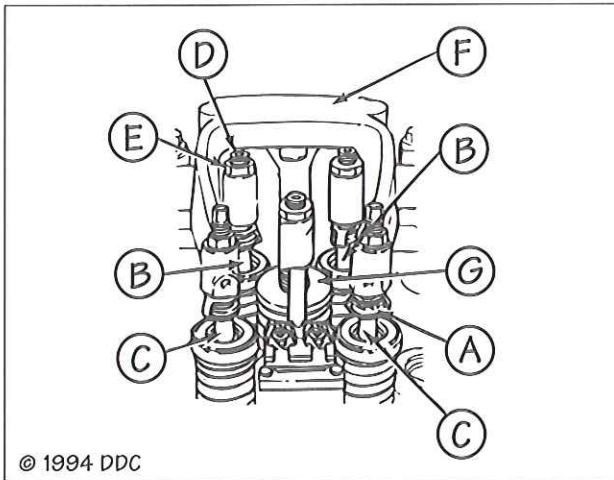

FIG. 67
Intake/exhaust valve clearances and fuel injector height are adjusted by means of an adjusting set screw (D) and locknut (E) located at the valve end of the rocker arm (F) (see Fig. 67).
3. Bar the engine over by inserting a 3/4" drive breaker bar or ratchet into the square hole in the center of the crankshaft pulley. Stop engine rotation when any one of the fuel injector followers (G, Fig. 67) has just begun its downward stroke. Note number of this cylinder.